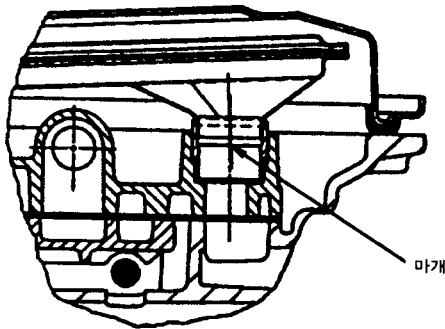

Figure 8.63 - Oil Filter Spigot
To assemble the oil filter and pan assembly (refer to figures 8.63 and 8.64), proceed as follows.
2. Carefully assemble the oil filter to the valve body. The spigot must not lean on one side while being fitted. Refer to figure 8.63.